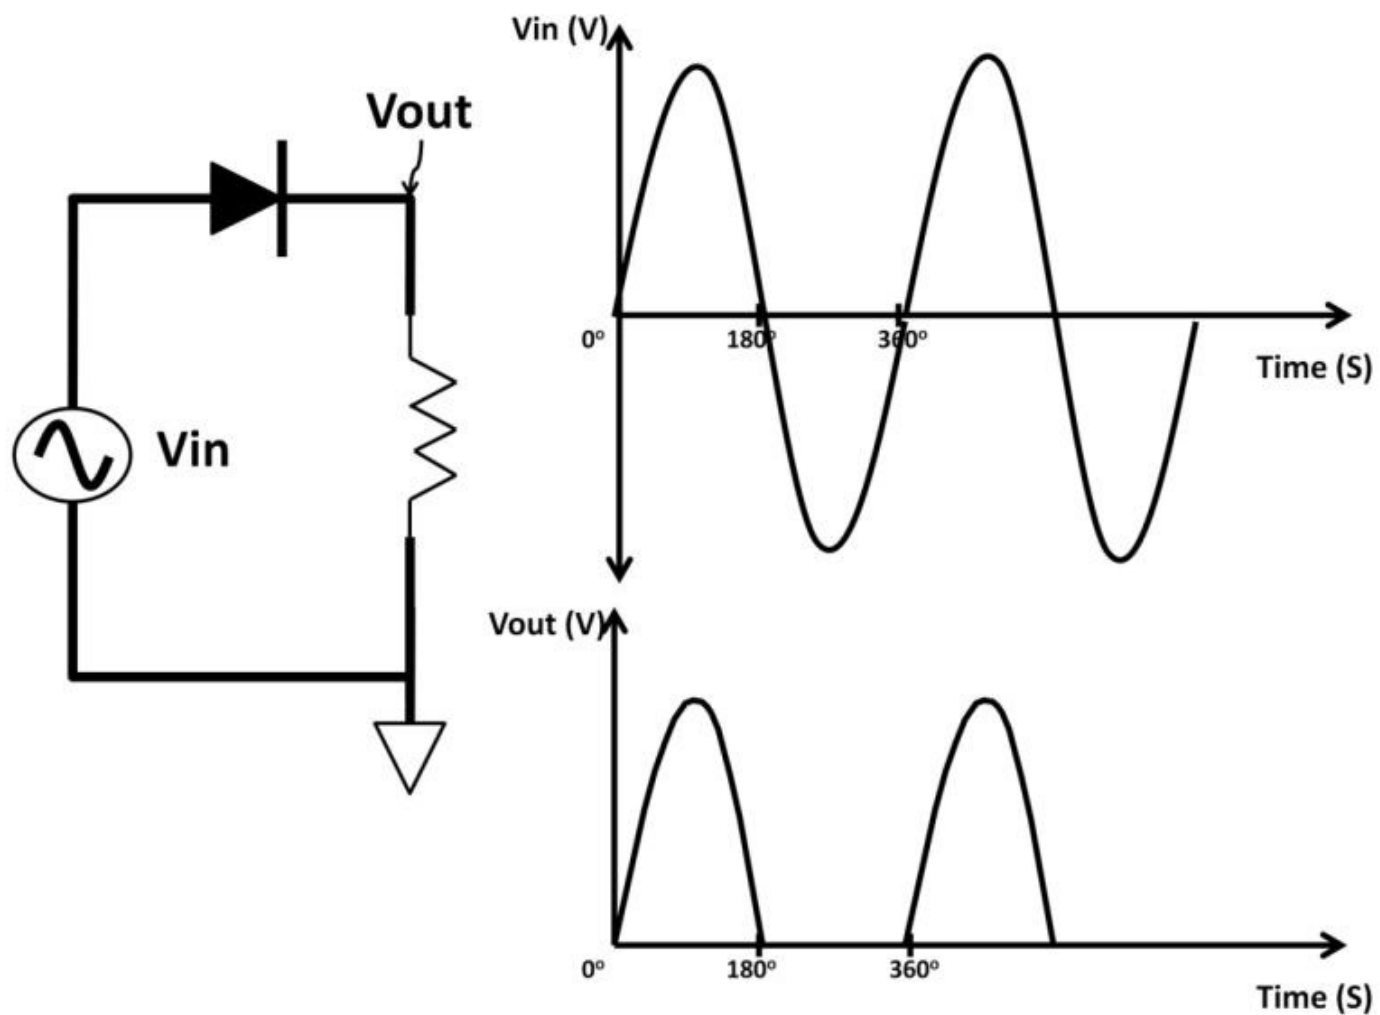
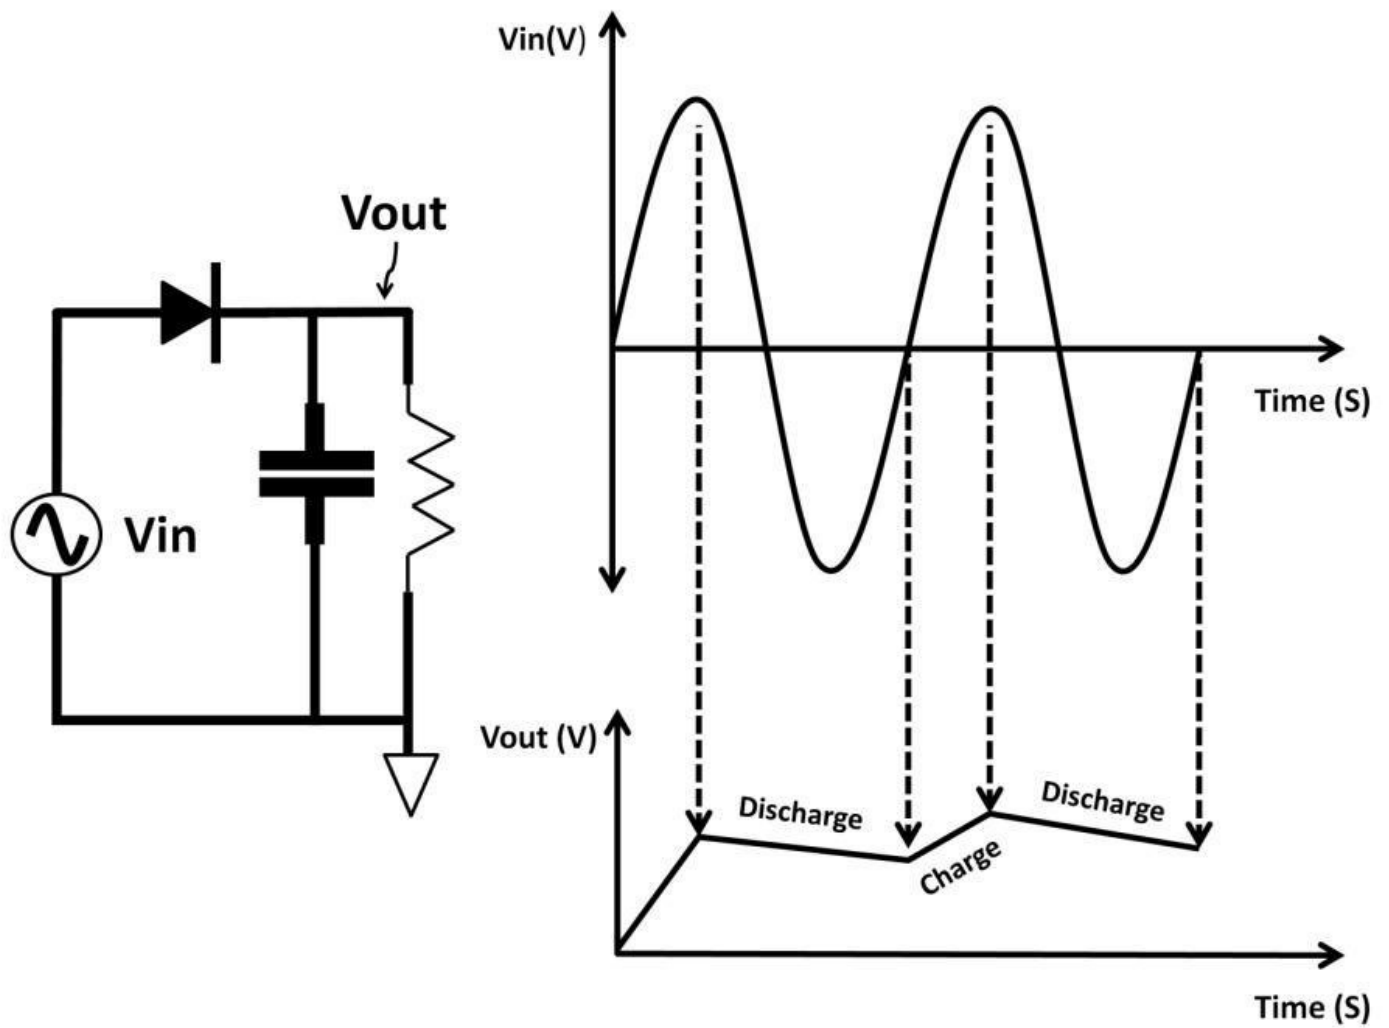
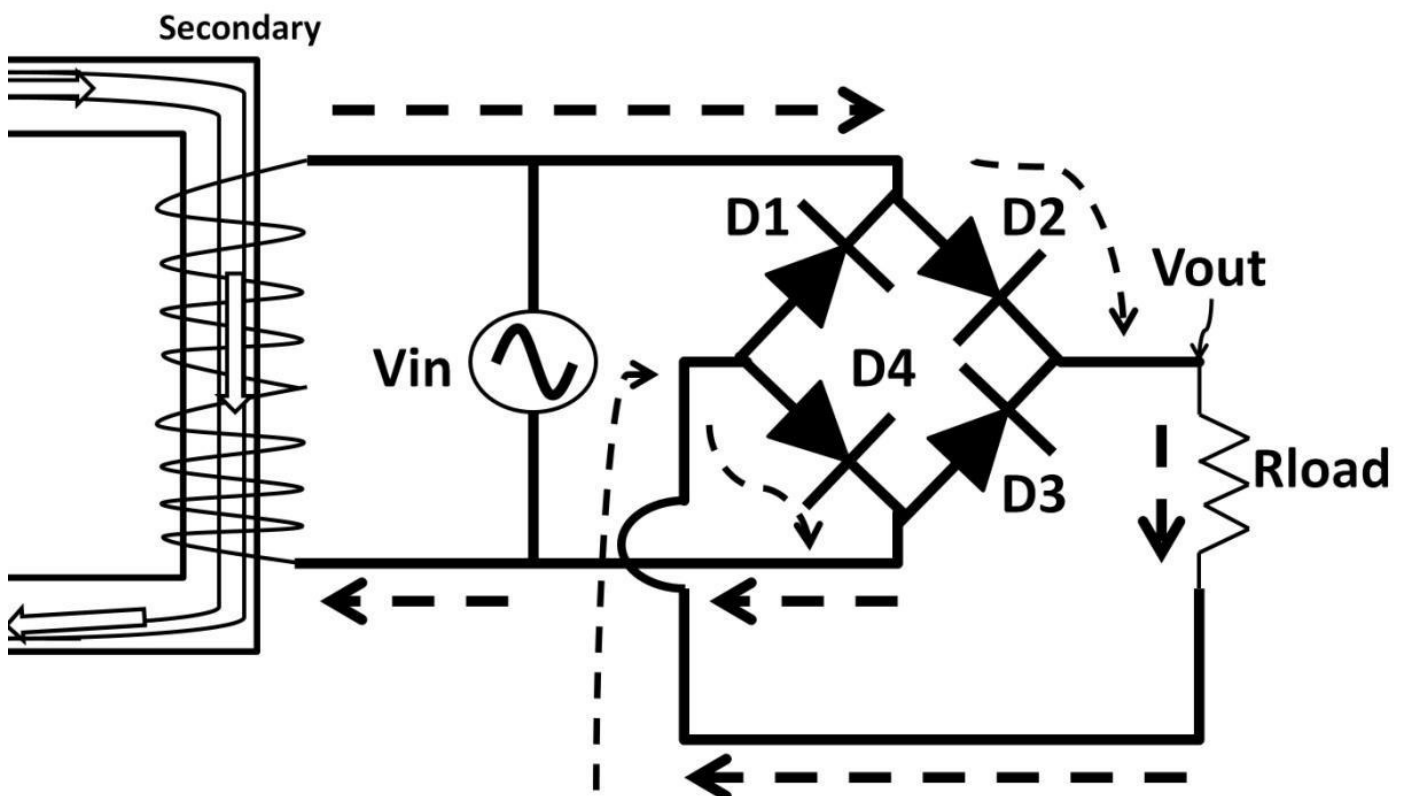

Figure 3.57: Half-wave rectifier
Figure 3.58: DC voltage with capacitor
Figure 3.67: Full-wave rectifier
Using a diode rectifier, a zener linear regulator could further transform AC voltage to DC. A halfwave rectifier is a classic example shown in figure 3.57. The diode only conducts during the positive V_{in} half cycle. V_{out} is at 0 V during the negative half (Diode reverse-biased) cycle. By adding a capacitor in the circuit, a “DC-like” output is acquired similar to figure 3.58. During the positive half cycle, the capacitor is charged up to the V_{in} peak. During the negative half cycle, the diode turns off, and charges accumulated on the top capacitor plate slowly discharge to the resistor delayed by the RC time constant. This output is not a stable DC voltage due to the fact that the voltage is being charged and discharged. The amplitude of this charge and discharge voltage is called ripple voltage. Ripple voltage defines how well the V_{out} is compared to a stable DC voltage.
9) A full-wave rectifier in a power supply generates a rectified AC voltage (DC) signal. As opposed to a half-wave rectifier in figure 3.57, a full-wave rectifier converts both first and second halves of an AC input (secondary side of the transformer) to the output (see figure 3.67). In this circuit, the dotted lines show the current directions during the positive half of the transformer output. Only D2 and D4 are conducting. According to this design, if V_{in} 's peak voltage is 10 V and frequency is 100 kHz, what is the voltage waveform at the V_{out} ?